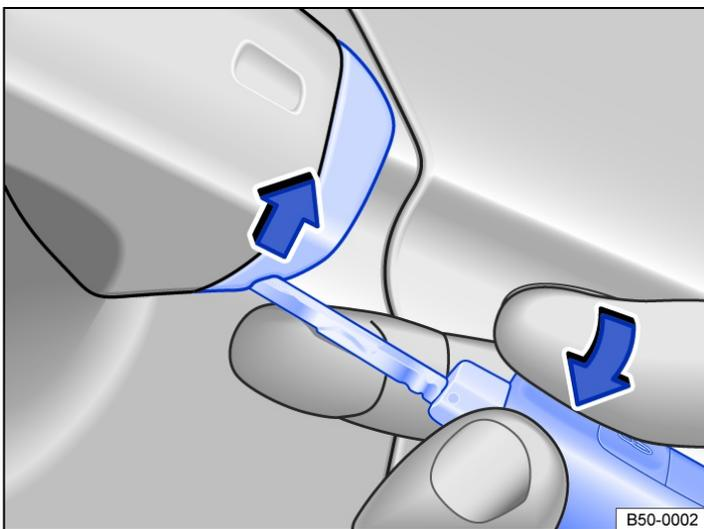

Fig. 2 Handle on the driver door: levering off the cover.
- Lift the cap off with the vehicle key in the direction of the arrow → *Fig. 2*